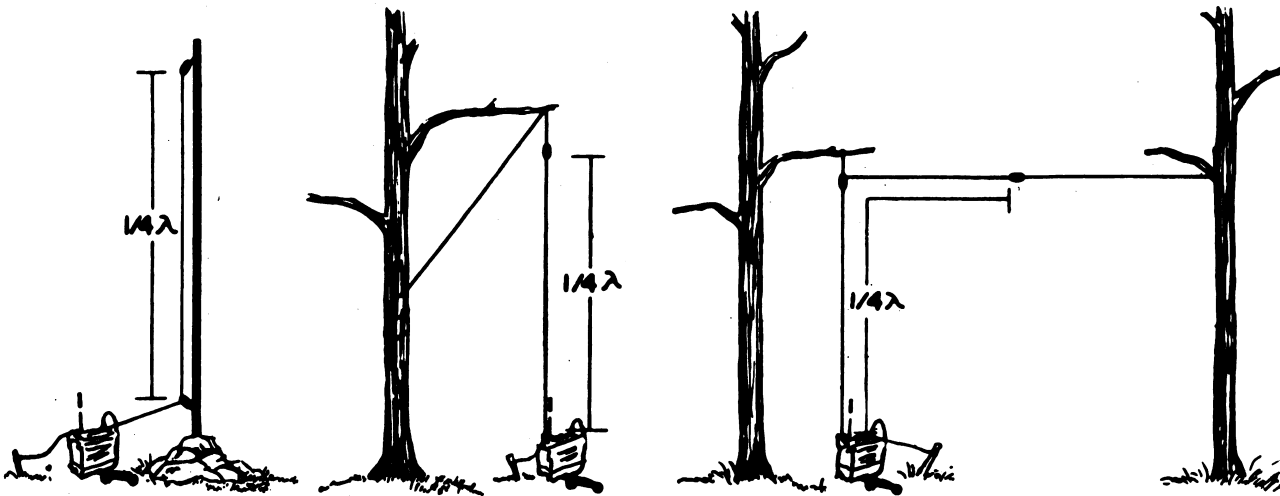

Figure 2. One-quarter-wavelength antenna (vertical).
b. A good ground system is essential (fig. 2).